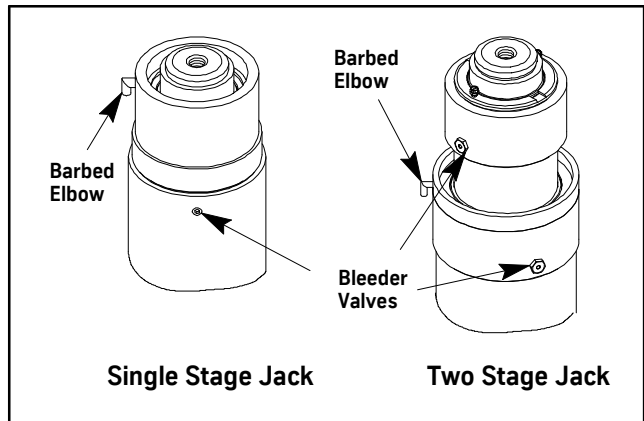

Figure 7
2. Remove all sonotubing EXCEPT the part below the lower plunger. See Figure 7.
5. Install the 90° barbed “drain tube” elbow. See Figure 7.